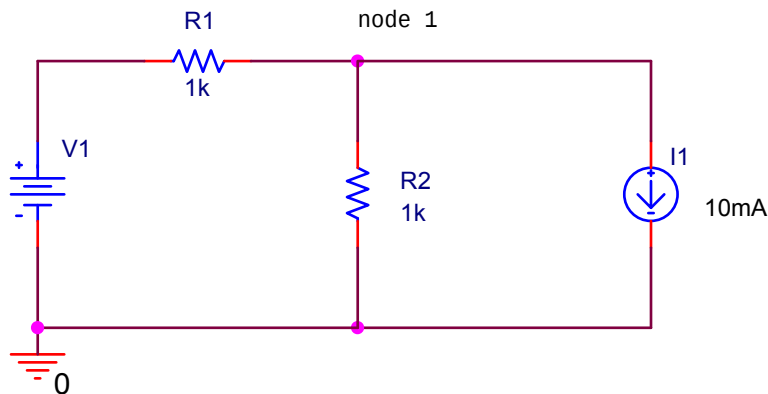

Figure 1.
2. Consider a resistive circuit in Figure 1. Using Kirchhoff's current law (nodal analysis) calculate the voltage at node 1 with respect to the ground for two voltage functions $V1 = 5$ V and 15 V. Using Kirchhoff's voltage law (mesh analysis) calculate the currents through resistors $R1$ and $R2$, then find the voltage at node 1. Make sure both methods give identical results.
6. Assemble the circuit in Figure 1. Set up the 6V source to operate as a positive source connecting the circuit ground terminal to (-) of the power supply 6V section. Set the voltage at 5V and the current compliance at the sufficiently high value of 100mA so that the source will operate in the voltage mode for the given circuit. Set up the maximum voltage of 25 V in the second source and select the current compliance at 10mA level. The source loaded with the circuit will operate as a 10-mA current source. If you disconnect it from the circuit, the source will switch back to the voltage mode. The current flows from positive to negative terminals, so that to have the correct current direction, connect the circuit ground to the positive terminal of the 25 V source.